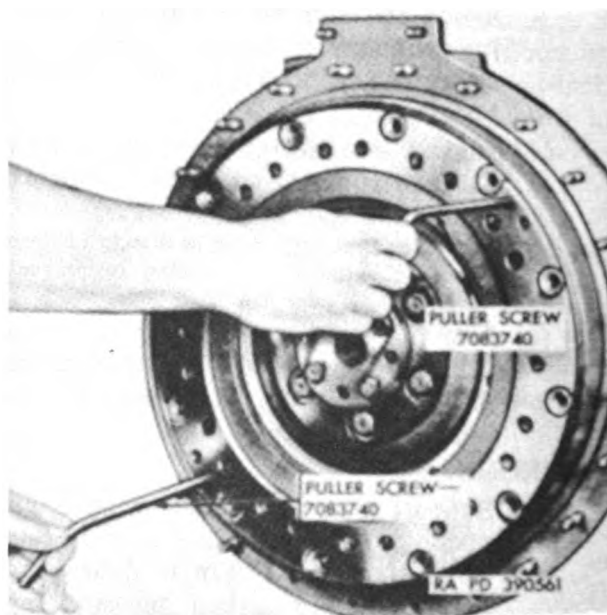

Figure 57. Removing flywheel cover plate (model AOSI-895-5M engines only).
- (b) Remove flywheel cover plate using two puller screws 7083740 (fig. 57).